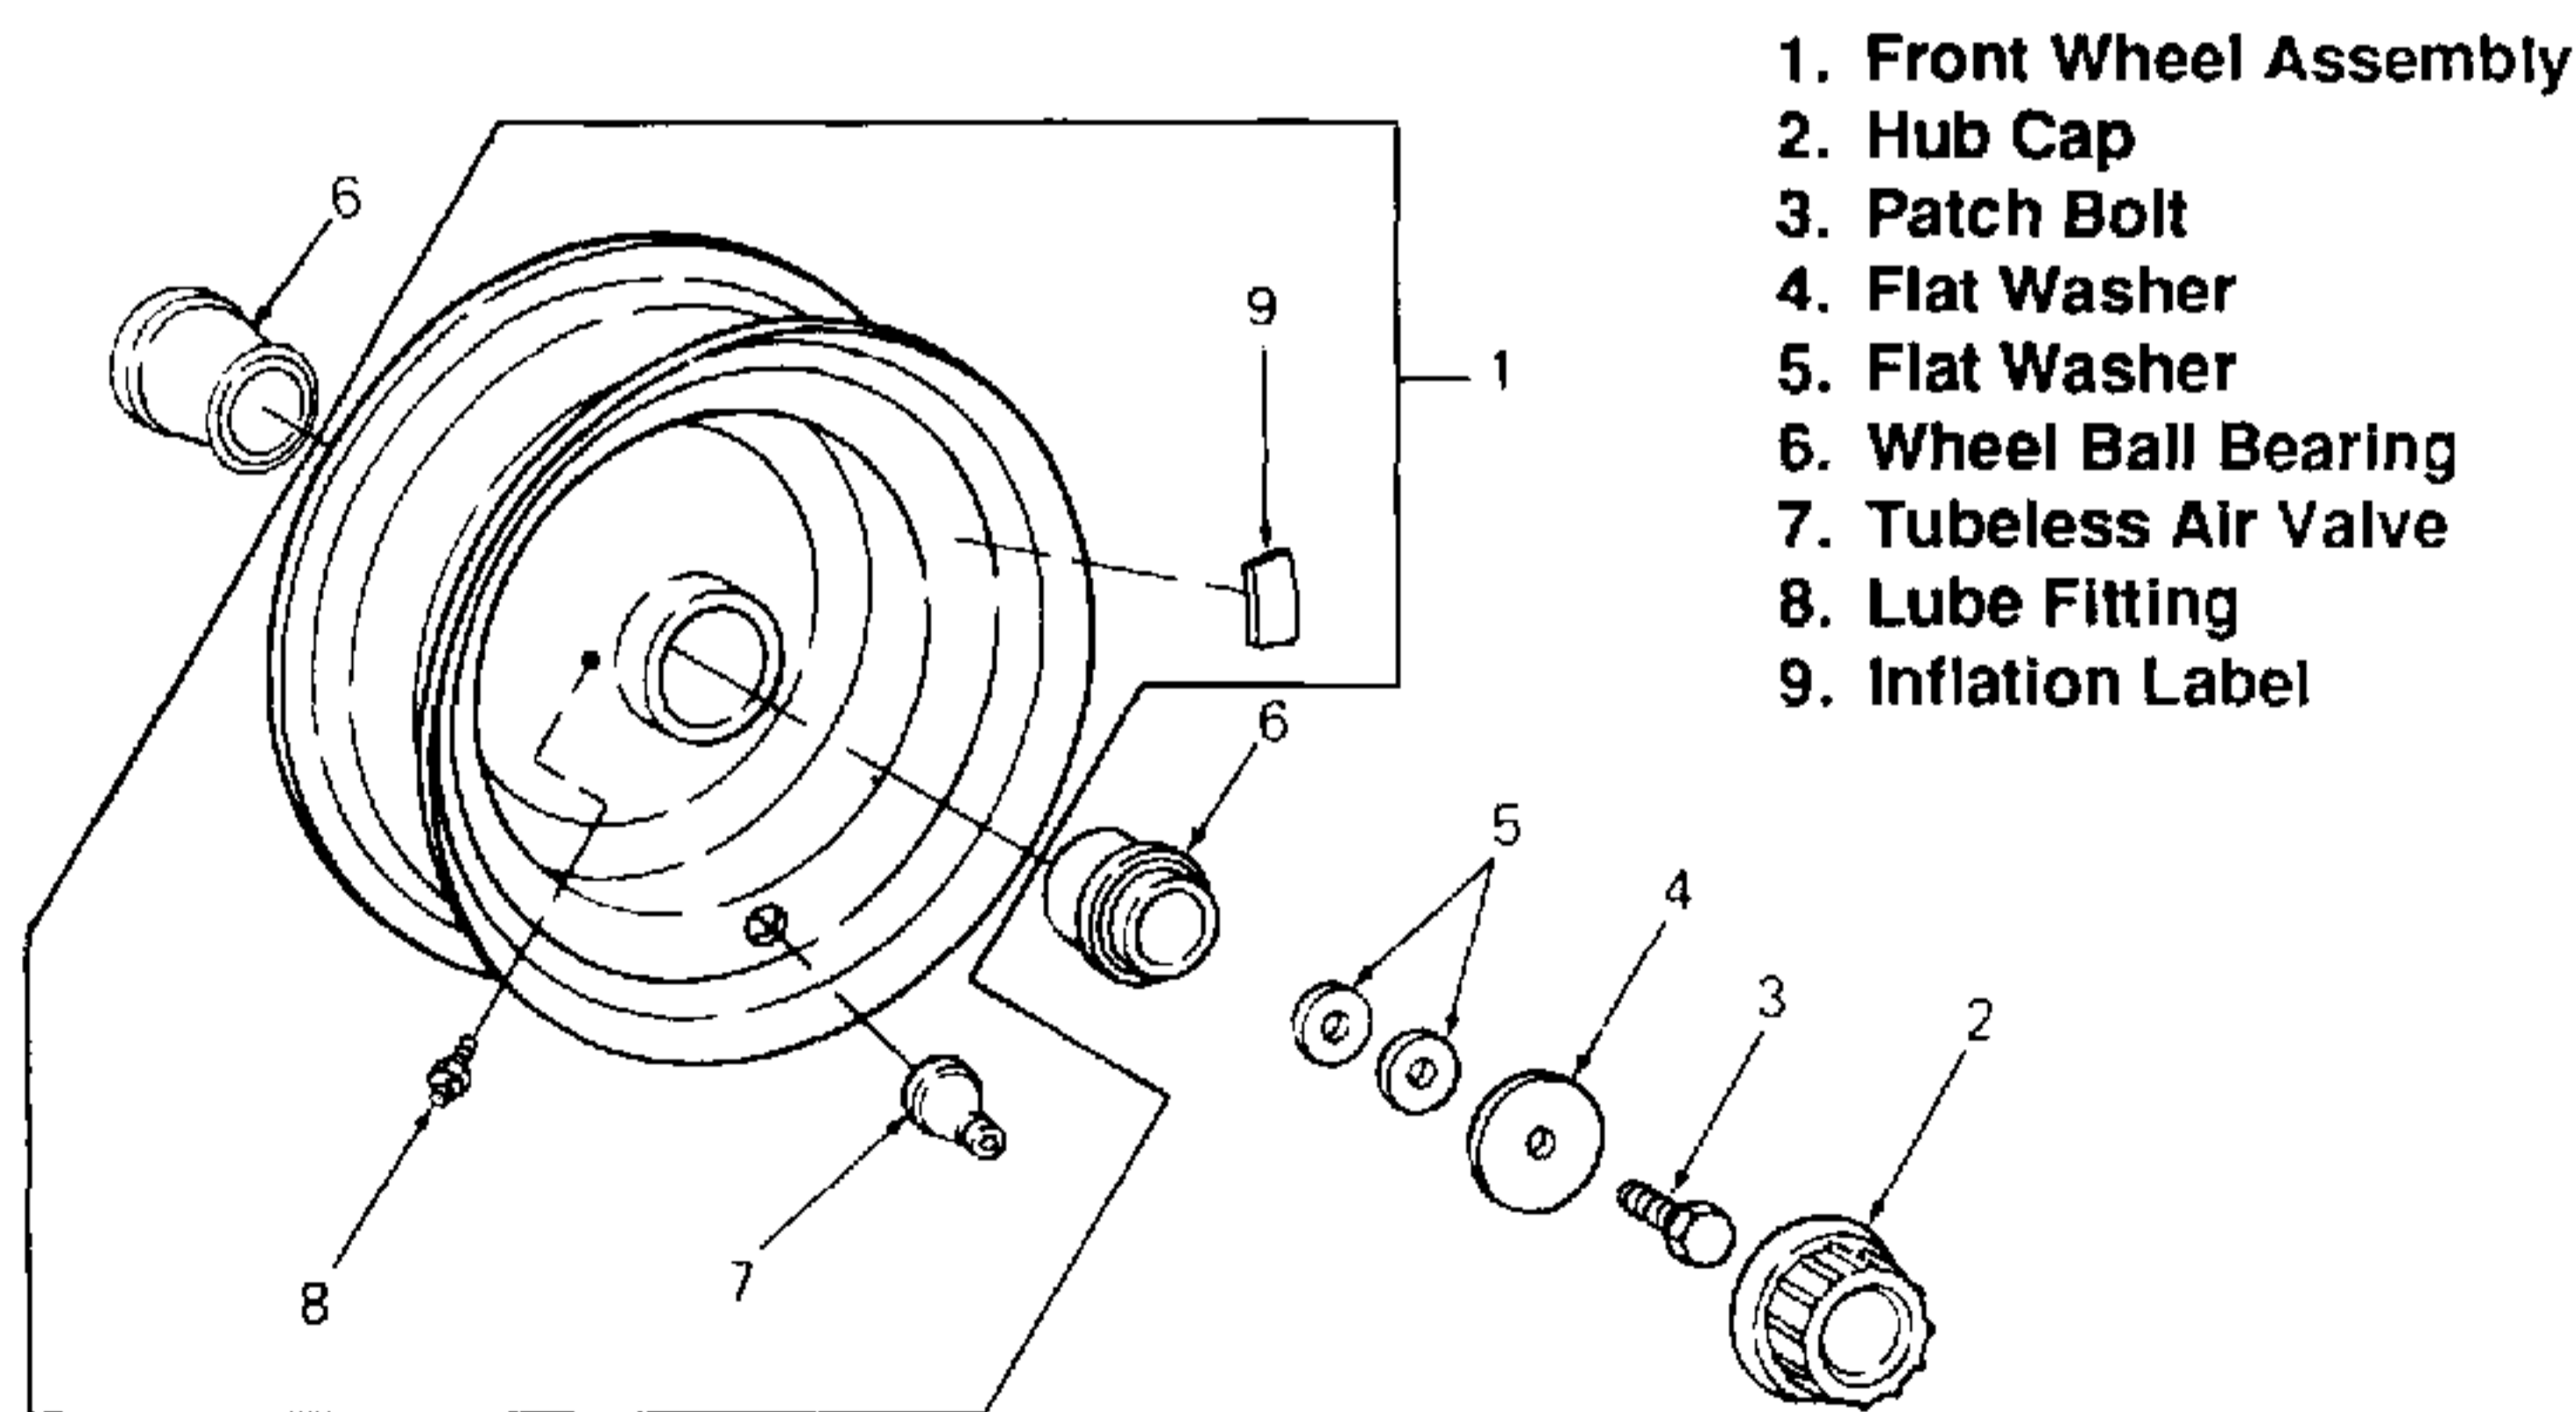

Figure 5-22. Front Wheel (All Models).
1. Remove hub cap (2, Figure 5-22), loosen patch bolt (3) and raise and secure the front end of the tractor.
2. Remove front wheel assembly (1) by removing patch bolt (3) and flat washers (4 and 5).
1. Disassemble front wheel assembly (1, Figure 5-22) as follows: